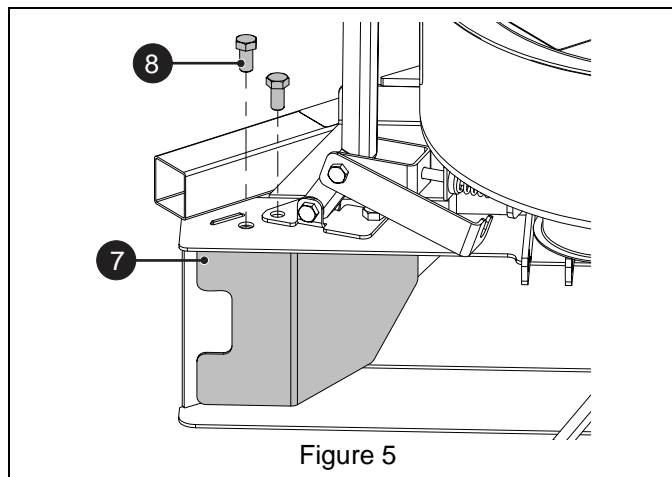

Figure 5
2. Install baffle (item 7) in front of blower housing outlet. Secure with two 3/8 x 3/4" hex bolts (item 8). See Figure 5.